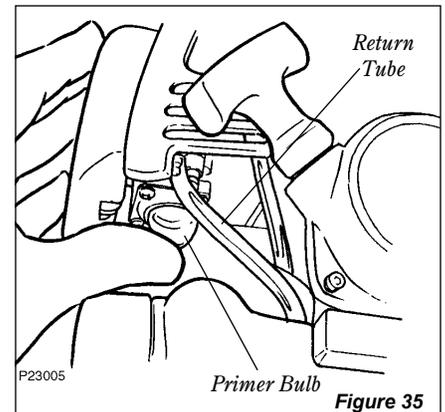

Figure 35
3. Prime the engine by depressing the carburetor primer bulb four or five times. See Figure 35. You should be able to see fuel inside the bulb.